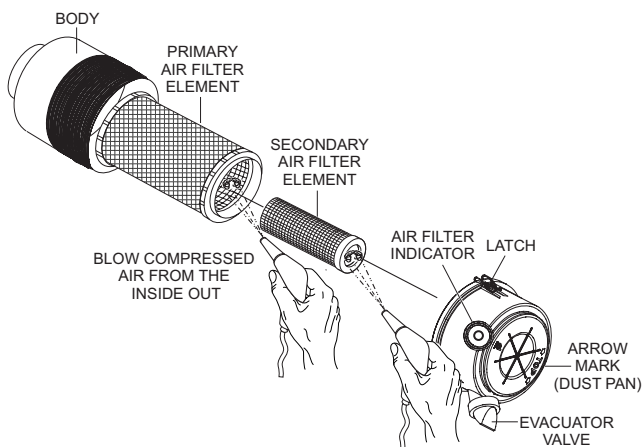

Figure 66. Engine Air Cleaner
The air cleaner (Figure 66) provided with this John Deere diesel engine is equipped with a replaceable, high-density, paper air filter element. The air cleaner is also equipped with an inner (secondary) element that is used as a backup filter should the primary element become damaged. Check the air cleaner daily or before starting the engine. Replace the air cleaner as needed.
1. Release the **latches** that secure the **air cleaner cover** to the **air cleaner body** (Figure 66).
2. Remove the air cleaner cover (Figure 66) and set it aside.
3. Remove both the primary and secondary **air cleaner elements** (Figure 66).
5. To clean the **primary element** (paper air filter) as shown in Figure 66, tap the filter element several times on a hard surface to remove dirt, or blow compressed air, not to exceed 30 psi (207 kPa, 2.1 kgf/cm²), through the filter element from the inside out.
8. Clean the inside of the air cleaner body (Figure 66).